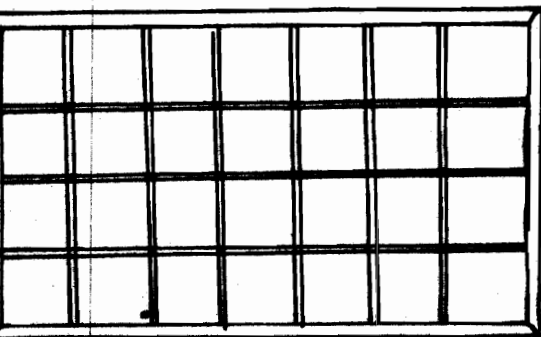
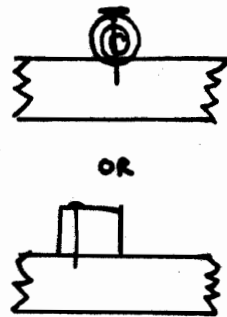
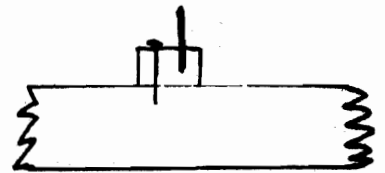

FIGURE 1
FIGURE 2
FIGURE 3
**Materials:** Prof. Pyro. Ad., and as many frames as necessary. The frames are made in any convenient size from light lumber with outer strips 1/2 x 2" and center strips 1/2 x 1", spaced 1 foot apart each way (Figure 1). Bamboo or rattan for the curves and light strips of wood for the straight lines are then tacked on in the outline of the design, letters, etc. (Figure 2). Drive 1" "double pointed" nails to a depth of 1/2" (Figure 3) at intervals of 2-1/2" in the curves and 4" on the straight lines all over the design.